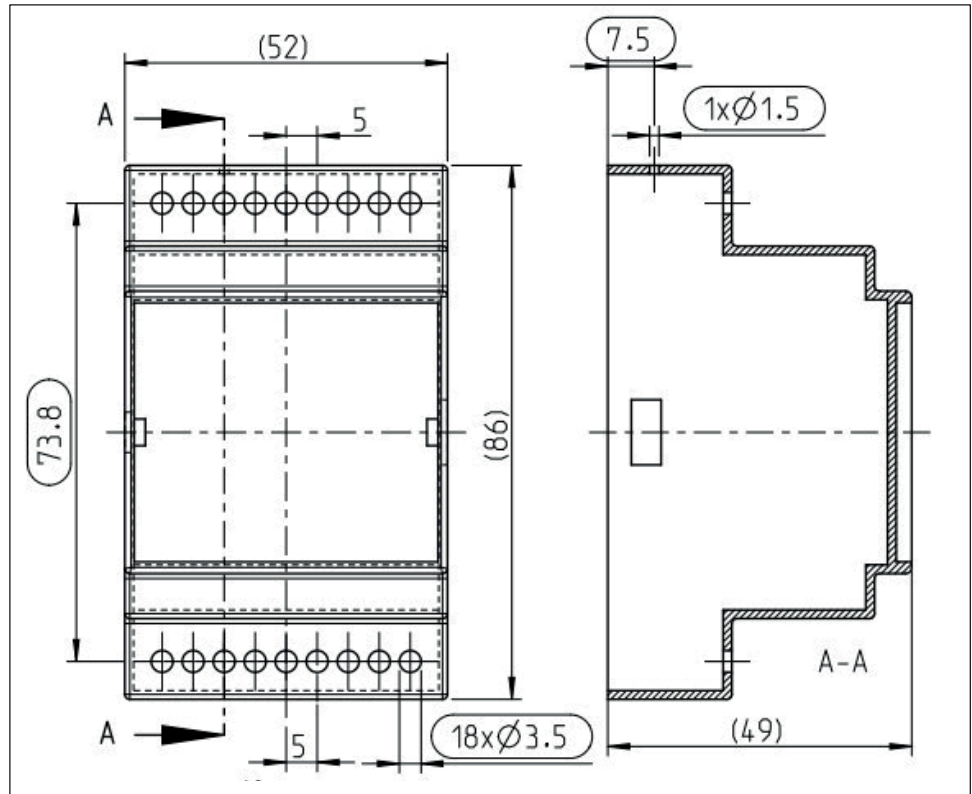

Fig. 7: Dimensions
- An external voltage supply in accordance with the specification is needed for the WTX 202 (see "Fig. 7: Dimensions" on page 32).